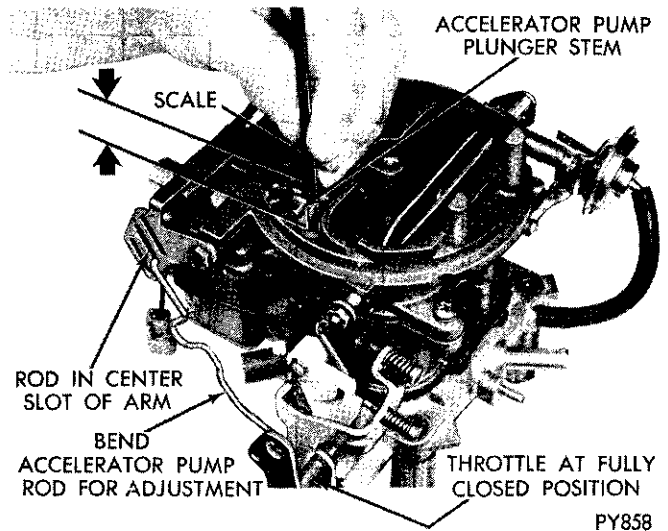

Fig. 24—Accelerator Pump Adjustment
(1) Back off curb idle speed adjusting screw. Open choke valve so that fast idle cam allows throttle valves to be completely seated in bores. Be sure that pump connector rod is installed in center slot of accelerator pump rocker arm.
(2) Close throttle valves tightly. Measure the distance between top of air horn and end of plunger shaft (Fig. 24). This measurement should be 9/16 inch.
(3) To adjust pump travel, bend pump operating rod, using Tool T109-213, at loop of rod, until correct setting has been obtained.